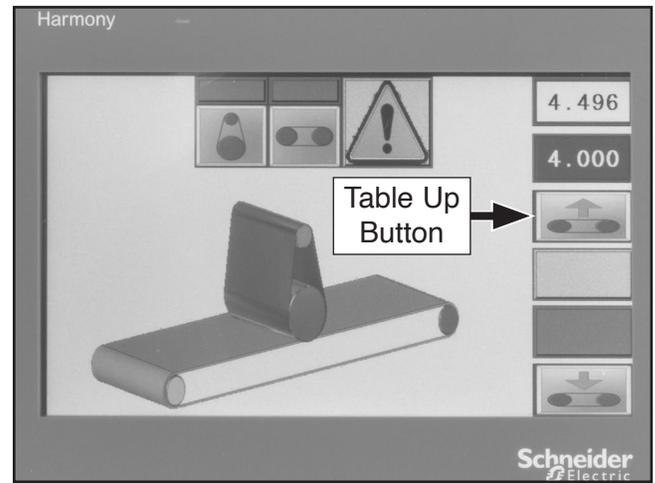

Figure 36. Location of table up button.
16. Press and hold table up button (see **Figure 36**). When workpiece contacts workpiece thickness sensor, table should stop.